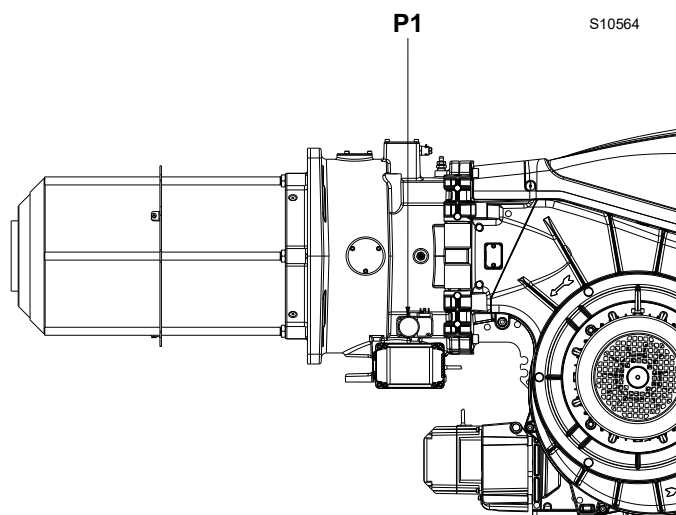

Fig. 27
- subtract the combustion chamber pressure from the gas pressure measured at test point P1)(Fig. 27).
To calculate the required gas pressure at test point P1)(Fig. 27), set the MAX output required from the burner operation:
- Read the pressure at the test point P1)(Fig. 27).
Pressure required at test point P1)(Fig. 27).